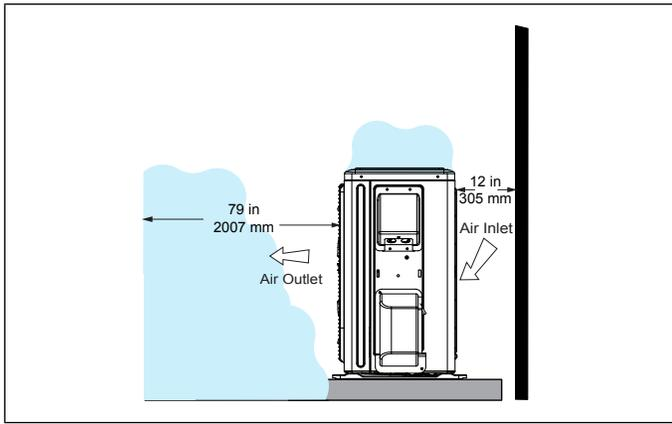

Figure 11. Outdoor Unit Air Flow Obstructed by Snow
- In heavy snow areas, do not place the unit where drifting will occur as illustrated in “Figure 11. Outdoor Unit Air Flow Obstructed by Snow” on page 10.